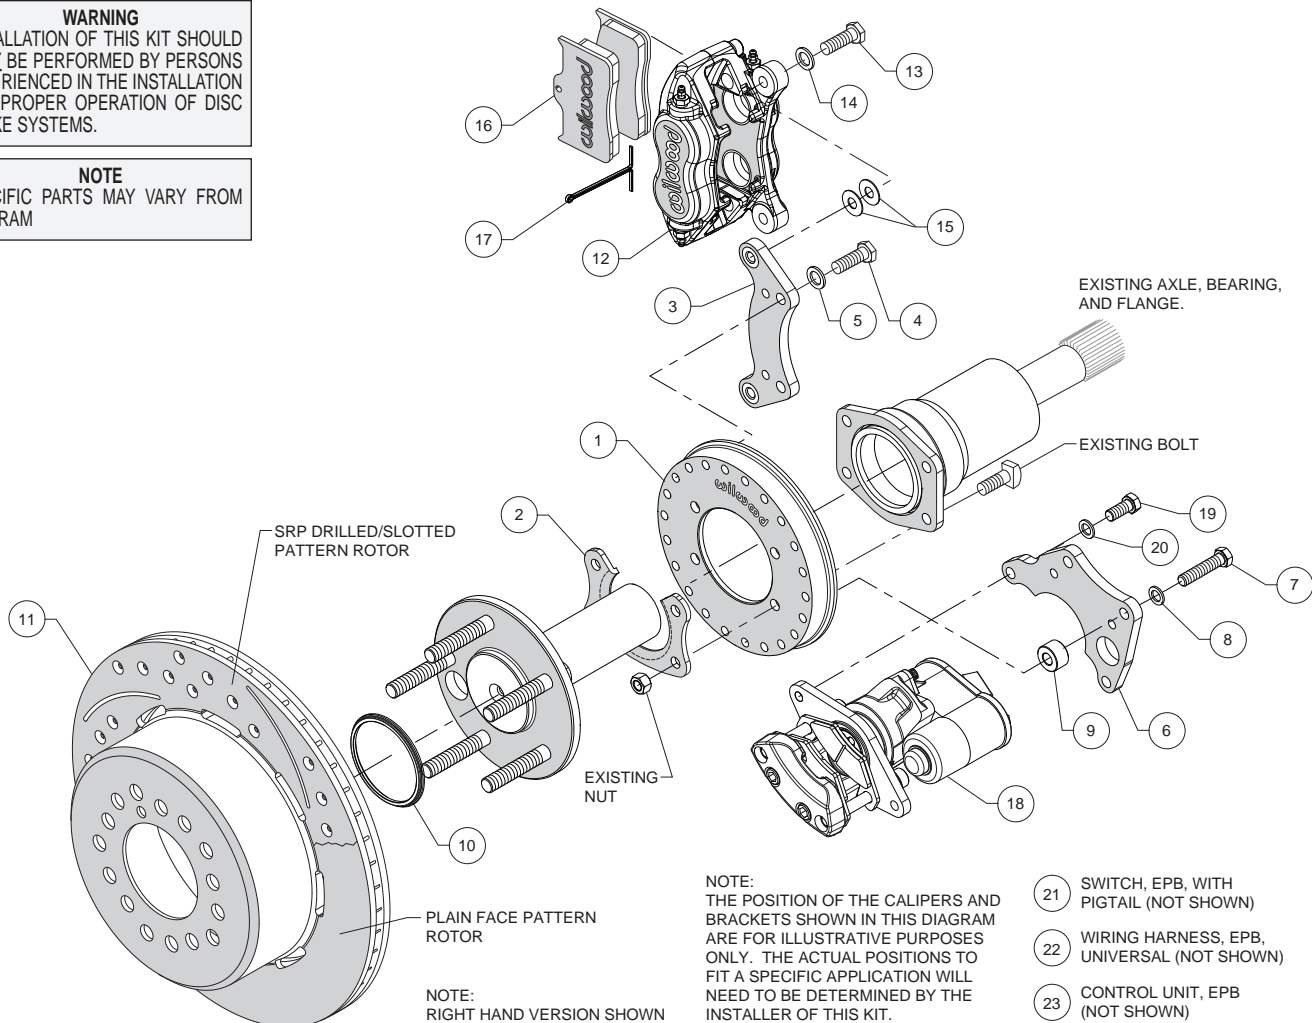
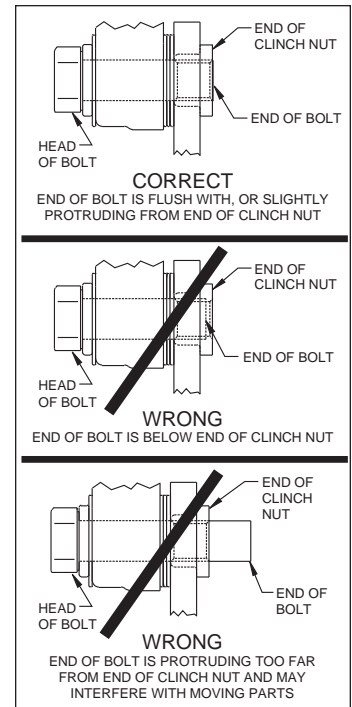

Figure 1. Typical Installation Configuration
Figure 5. Clinch Nut Engagement Diagram
(numbers in parenthesis refer to the parts list, and Figure 1 on the preceding pages):
CAUTION: All mounting bolts must fully engage clinch nuts. Be sure to check that all bolts are either flush or protruding through flanged side of clinch nut after shimming, Figure 5.
- Orient the backing plate (1) as shown in Figure 1 and Photo 1, and slide it onto the axle housing flange. Ensure the backing plate fits flush against the axle housing flange. Reinstall the axle into the axle housing.
- Install the bearing retainer (2) with the opening pointing upward and the lip facing inward (toward the bearing), as shown in Figures 1 and 4, and Photo 2. Secure retainer and backing plate to the axle housing flange using the Original Equipment Manufacturer (OEM) bolts and nuts, Figure 1 and Photo 3. Apply red *Loctite*® 271 to the OEM bolt threads and torque to OEM specifications.
- Start by determining the best location for the service caliper (12). This caliper is usually mounted in the 3:00 or 9:00 o'clock position, but may be rotated up or down approximately 45 degrees and still allow for proper bleeding, Photo 4. Orient the service caliper bracket (3) as shown in Figure 1 and Photo 5, and install to the backing plate (1) in the desired location using bolts (4) and washers (5). Temporarily tighten bolts. Next, mount the service caliper to the bracket using bolts (13) and washers (14). Temporarily tighten bolts. Check that the caliper (including inlet fitting and hose) has sufficient clearance to all surrounding components through the full suspension travel. Relocate the caliper/bracket on the backing plate as needed to ensure proper clearance is achieved.
- Determine the best location for the EPB caliper (18). **NOTE:** *The EPB caliper motor extends farther inboard than the service caliper and therefore needs additional consideration when determining a mounting location with sufficient clearance.* In the example application shown in Photo 6, the EPB caliper has sufficient inboard clearance to the leaf spring. However, if the EPB caliper were mounted closer to the 12:00 o'clock position, the inner body of the vehicle would hit the caliper during full compression of the suspension.
•Orient the EPB caliper bracket (6) as shown in Figure 1 and Photo 7, and install to the backing plate (1) in the desired location using bolts (7), washers (8), and spacers (9). Temporarily tighten bolts. **NOTE:** The EPB bracket is reversible. In one direction the bracket will position the EPB caliper closer to the service caliper, and vice versa if reversing the bracket. Next, mount the EPB caliper (18) to the bracket using bolts (19) and washers (20). Temporarily tighten bolts. **NOTE:** EPB calipers are Left and Right handed, however they can be used on either side of the vehicle to best suit your specific application. Check that the EPB caliper (including wiring harness connector) has sufficient clearance to all surrounding components through the full suspension travel. Relocate the EPB caliper/bracket on the backing plate as needed to ensure proper clearance is achieved.
•Once the caliper positions have been determined, remove both the service (12) and EPB (18) calipers, leaving both brackets in place on the backing plate. For both brackets, remove the bolts one at a time, apply red *Loctite*® 271 to the threads, and torque to 35 ft-lb.
•Slide the rotor registration adapter (10) onto the register on the axle flange with the smaller O.D. facing toward the rotor/hat (11), Photo 8. Align the correct hole pattern in the rotor/hat with the stud pattern on the axle flange and slide into place, Figure 1. **NOTE:** The rotor/hat must fit flush against the axle flange or excessive rotor run out may result. Install three lug nuts (finger tight) to keep the rotor/hat assembly in place while continuing with the installation. **NOTE:** Some OEM and after market axles come with stud sizes larger than 0.50" diameter. Verify stud size and have a qualified machine shop drill the bolt circle of the hat/rotor to the correct stud size, if necessary.
•**NOTE:** Please reference the caution statement at the beginning of the assembly instructions. Remount the service caliper (12) onto the caliper mounting bracket (3) using bolts (13) and washers (14), as shown in Figure 1. Initially place two .035" thick shims (15) on each bolt between the caliper and the bracket, Photo 9. Temporarily tighten the mounting bolts and view the rotor (11) through the top opening of the caliper. The rotor should be centered in the caliper, Photo 10. If not, adjust by adding or subtracting shims (15) between the bracket (3) and the caliper (12). Always use the same amount of shims on each of the two mounting bolts. **NOTE:** The end of each bolt must be flush with or slightly protruding from the head of the clinch nut, as shown in Figure 5. If necessary place spare shims (15) between washer (14) and caliper mounting ear to achieve the proper clinch nut engagement. Once the caliper alignment and clinch nut engagement are correct, remove the bolts one at a time, apply red *Loctite*® 271 to bolt threads, and torque to 40 ft-lb.
- Mount the EPB caliper (18) onto the caliper mounting bracket (6) using bolts (19) and washers (20), Figure 1. Apply red *Loctite*® 271 to bolt threads, and torque to 30 ft-lb.
- NOTE:** *The service caliper (12) in this brake kit utilizes a 1/8-27 NPT pipe thread inlet. OEM rubber brake hoses generally cannot be adapted to Wilwood calipers. The preferred method is to use steel adapter fittings at the caliper, either straight, 45 or 90 degree and enough steel braided line to allow for full suspension travel. **Carefully route hoses to prevent contact with moving suspension, brake or wheel components.** NOTE: Wilwood hose kits are designed for use in many different vehicle applications and it is the installer's responsibility to properly route and ensure adequate clearance and retention for brake hose components. Wilwood offers universal brake flex line hose kits, domestic (3/8-24 IF) chassis fittings, order:*